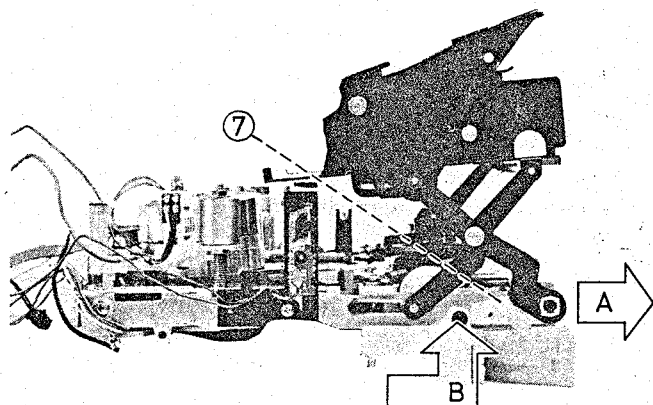

Fig. 2-51 Cassette Holder Removal
7. Release two (2) tabs. (See Fig. 2-51, 2-52)
8. Move the front arm in the direction of the arrow (A).
9. Move the rear arm in the direction of the arrow (B).